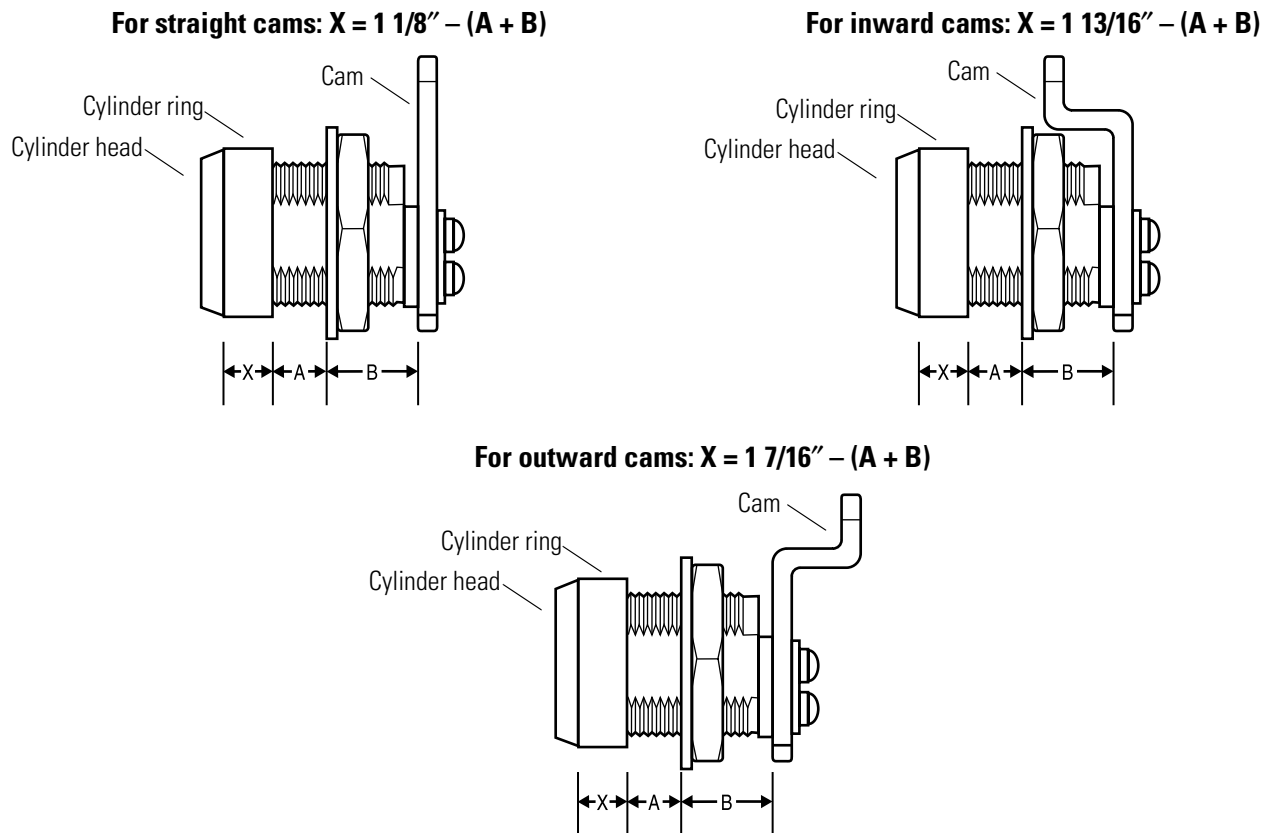

Figure 4.3 Determining the cylinder ring length
A cylinder ring is required if there is a gap between the cylinder head and the mounting surface when the cam is positioned for proper lock operation. To determine what length cylinder ring is needed, see Figure 4.3 and perform the following steps:
1. Measure in inches the thickness of the mounting surface. See length "A" in Figure 4.3.
2. Measure in inches the desired distance from the cam to the inside of the mounting surface. See length "B" in Figure 4.3.
4. *For straight cams*, subtract the total in Step 3 from $1 \frac{1}{8}''$. The difference is the length of the cylinder ring needed. See straight cam length "X" in Figure 4.3.
For inward mounted cams, subtract the total in Step 3 from $1 \frac{13}{16}''$. The difference is the length of the cylinder ring needed. See inward cam length "X" in Figure 4.3.
For outward mounted cams, subtract the total in Step 3 from 1 7/16". The difference is the length of the cylinder ring needed. See inward cam length "X" in Figure 4.3.